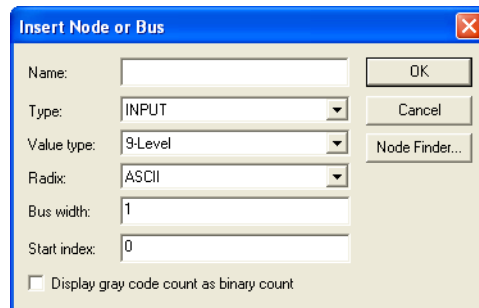
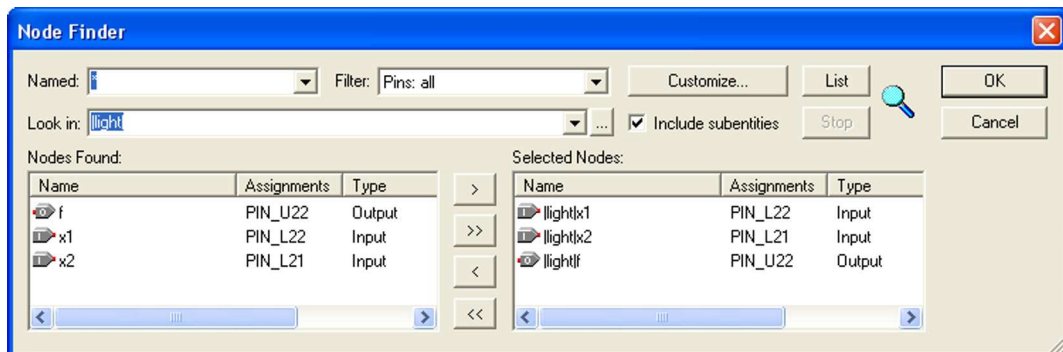
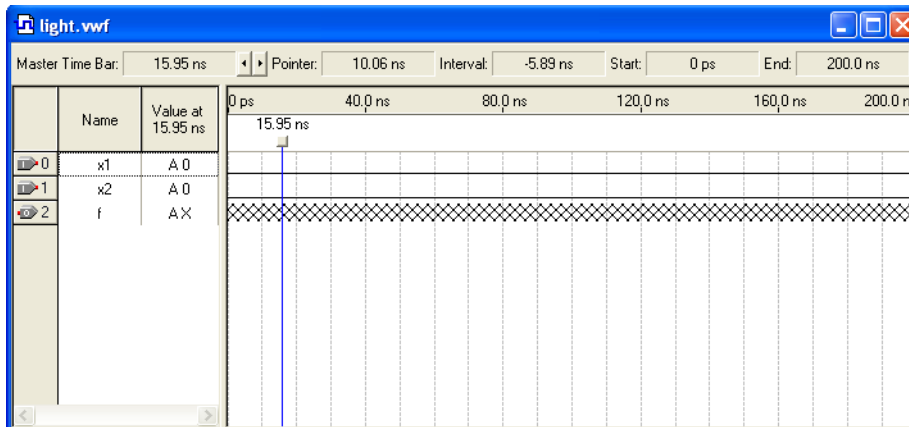

Figure 31. The Insert Node or Bus dialogue.
Figure 32. Selecting nodes to insert into the Waveform Editor.
Figure 33. The nodes needed for simulation.
- Next, we want to include the input and output nodes of the circuit to be simulated. Click **Edit > Insert > Insert Node or Bus** to open the window in Figure 31. It is possible to type the name of a signal (pin) into the Name box, but it is easier to click on the button labeled **Node Finder** to open the window in Figure 32. The Node Finder utility has a filter used to indicate what type of nodes are to be found. Since we are interested in input and output pins, set the filter to **Pins: all**. Click the **List** button to find the input and output nodes as indicated on the left side of the figure.
Click on the *x1* signal in the Nodes Found box in Figure 32, and then click the > sign to add it to the Selected Nodes box on the right side of the figure. Do the same for *x2* and *f*. Click OK to close the Node Finder window, and then click OK in the window of Figure 31. This leaves a fully displayed Waveform Editor window, as shown in Figure 33. If you did not select the nodes in the same order as displayed in Figure 33, it is possible to rearrange them. To move a waveform up or down in the Waveform Editor window, click on the node name (in the Name column) and release the mouse button. The waveform is now highlighted to show the selection. Click again on the waveform and drag it up or down in the Waveform Editor.